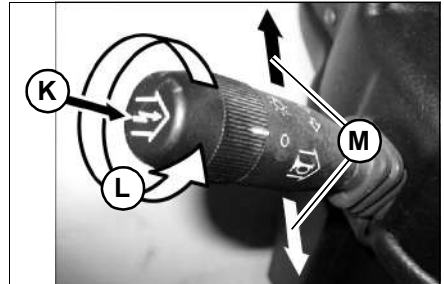

Figure 15 – Control Lever
1. Push the control lever in to activate the horn (K, Fig. 15).
2. Twist the end of the control lever to activate the position lights (L).
3. Push the control lever forward or rearward to activate the turn signals (M).